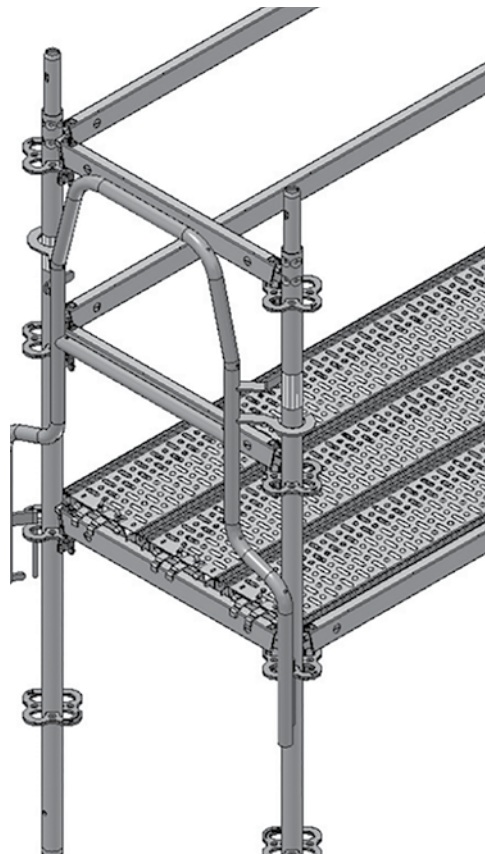

Fig. A7.02
2. Additional installation of the Ledger UH. (Fig. A7.02)